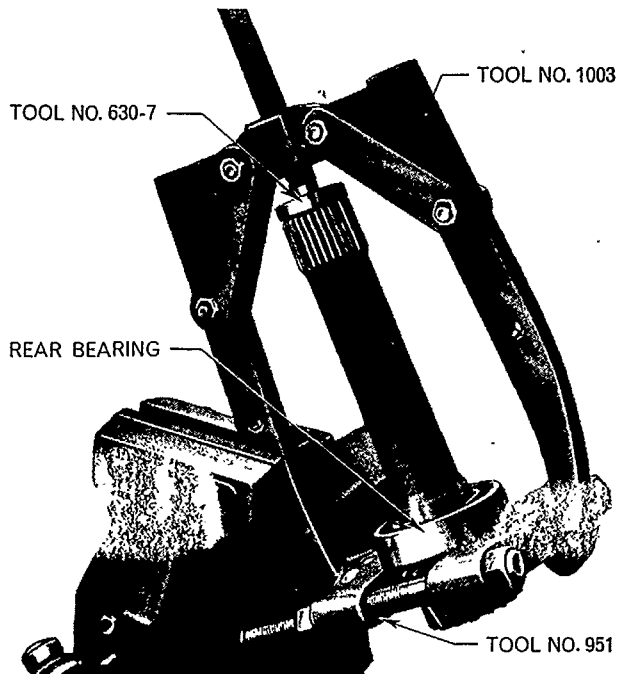

Figure 13
4. Inspect the gear teeth and the oil seal journals on the Live P.T.O. input shaft for damage or excessive wear, and check the rear bearing for wear or damage. If necessary, remove the snap ring from the shaft and withdraw the rear bearing using Tools Nos. 1003, 951 and 630-7, Figure 13.